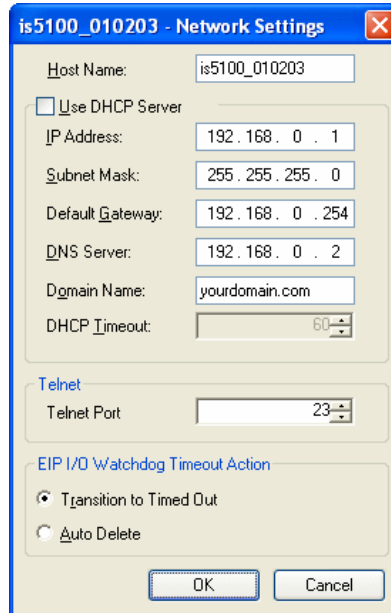

Figure 4-7: Network Settings Dialog
2. On the Sensor menu, click Network Settings to open the Network Settings dialog (Figure 4-7).